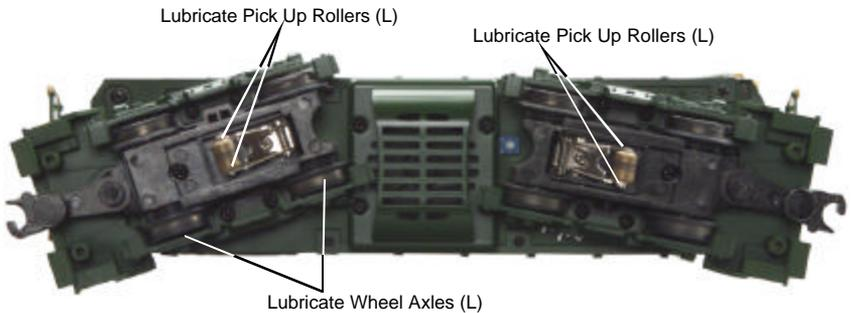
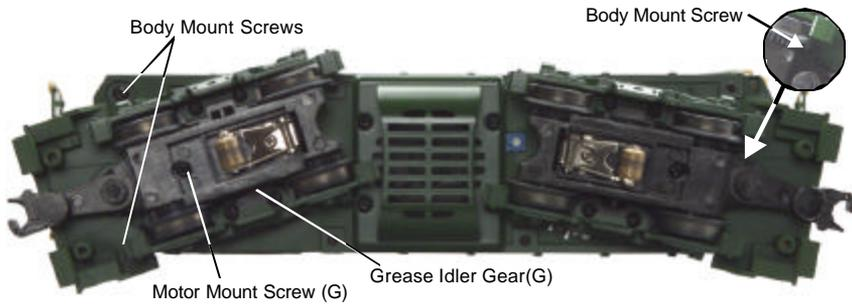

Figure 2. Lubrication Points on the Engine
Figure 3. Lubrication Points on the Engine
Although the engine was lubricated at the factory, it is important that you lubricate the chassis before operation. Lightly grease the outside idler and drive gears (marked “G” in Fig.3 on pg. 9) to prevent them from squeaking. Use light household oil and follow the lubrication points marked “L” in Fig. 2 on pg. 1. Do not over-oil. Use only a drop or two on each pivot point.
You should regularly lubricate all outside idler gears and pickup rollers to prevent them from squeaking. Use light household oil and follow the lubrication points marked “L” in Fig. 2. Do not over oil. Use only a drop or two on each pivot point.
1. Remove the Phillips screws from the chassis, as seen in Figure 3, then lift the body away from the chassis. Access the front screw through the hole in the front pilot.
2. Remove the truck blocks from the chassis by unscrewing the black Phillips motor mount screw on the bottom of each truck block, as shown in Figure 3.
It is also a good idea to lubricate the outside truck block idler and drive gears with grease occasionally. Add grease to the points marked with “G” in Figure 3.